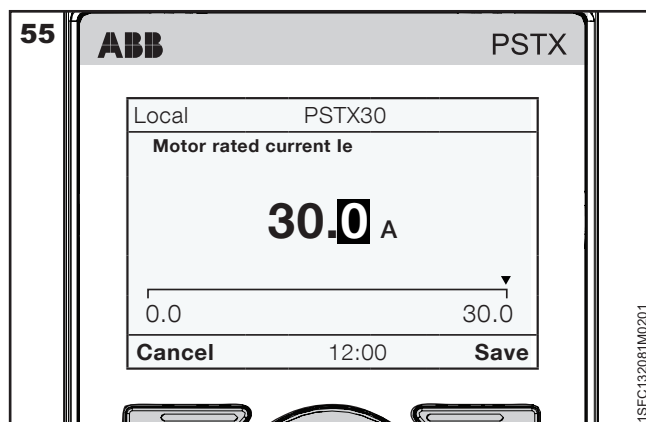

Figure 55: Motor current  $I_e$
1. The Home view is the top level. Press  "Menu" to enter the menu. The display now appears as in **Figure 55**.
See **Figure 55**. If you want to quit, you select  "Cancel".